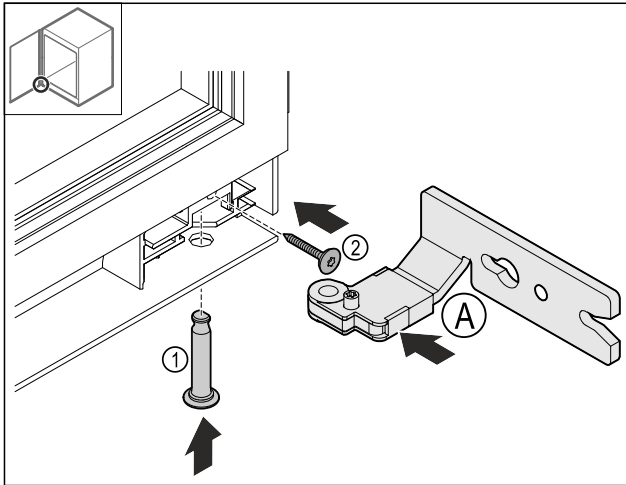

Fig. 25
- Insert the bottom hinge Fig. 25 (A).
- Insert the pin Fig. 25 (1) and hold it.
- Tighten the screw Fig. 25 (2).